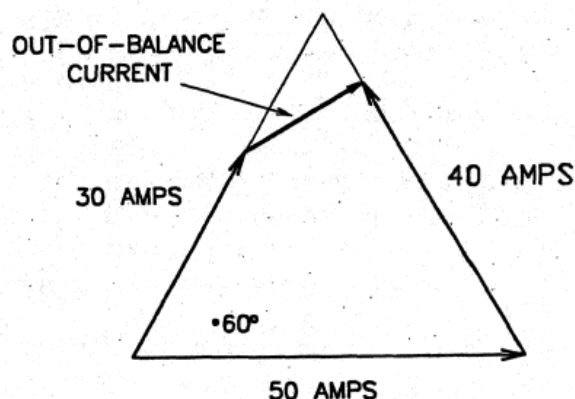

Figure 13 – Construction for Method 1
- a. **Method 1 – Triangle Phasors** Draw an equilateral triangle with sides equal to the largest given value of current (in this case 50 amps) using a suitable scale. Then draw the other two currents (using the same scale) on two of the sides of the triangle. The out of balance current is the distance between the two shorter phasors as shown in Figure 13.